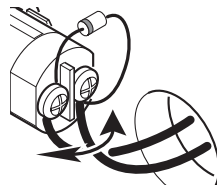

Figure 11
- **Using a Wireless Push Button:** When the chime is wired to a push button with an LED, there might be electrical interference with wireless push buttons. To resolve, locate the wired push button with the diode. Reverse the house wires connected to the push button (see Figure 11). *Note:* Do not remove or change the wiring connections of the diode.